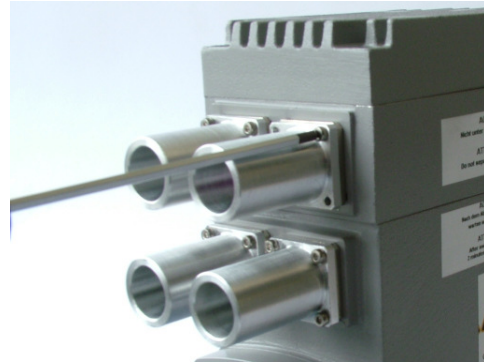

Figure 2.3.7: fixing bush for M12
- Loosen screws and remove fixing bush (refer to figure 2.3.7)